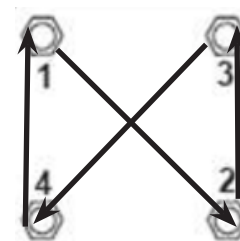

Figure 7- 4-Bolt Tightening Pattern
To torque bolts, tighten in the following increments using the tightening pattern in Figure 7: 50%, 75%, then Full Torque.
2. After the blade pitch angles have been set on both blades within 0.3° of each other, torque bolts following the symmetrical pattern in Figure 7 and tighten each bolt 1/8 to 1/4 turn at a time. Checking blade pitch at each torque interval.